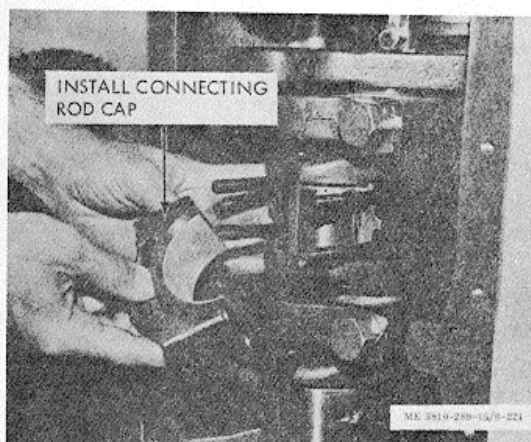

Figure 3-213. Connecting rod cap installation.
(15) Moving to bottom of block, grasp connecting rod and pull to within a short distance of crankshaft (for bearing shell clearance).
(16) Lubricate crankshaft contact surface of upper bearing shell with a thin coat of graphite grease such as Lubriplate.
(17) Slide shell into position between crankshaft journal and rod; be sure that shell locking tang makes firm contact with recess in connecting rod.
(18) Place lower bearing shell in connecting rod cap and lubricate shell with graphite grease such as Lubriplate. Be sure that the shell locking tang is seated in milled recess in cap. Cylinder numbers on rod and cap must be on same side and must match (1 to 1, 2 to 2, etc.). Install U bolts on rod; install cap to rod over crankshaft journal, figure 3-213; lubricate bolts, nuts and lockplates and assemble.